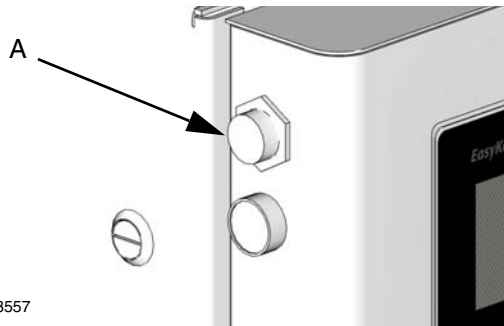

FIG. 30 EasyKey Web Connection
- **Local Network Connection** (most common). Patch cable from the local network plugs into the unit Web Interface connection. See FIG. 29 and FIG. 30, and page 66.
Patch cables are used to connect each unit to the local network and to the Web connection (A) on the EasyKey panel. See FIG. 30.